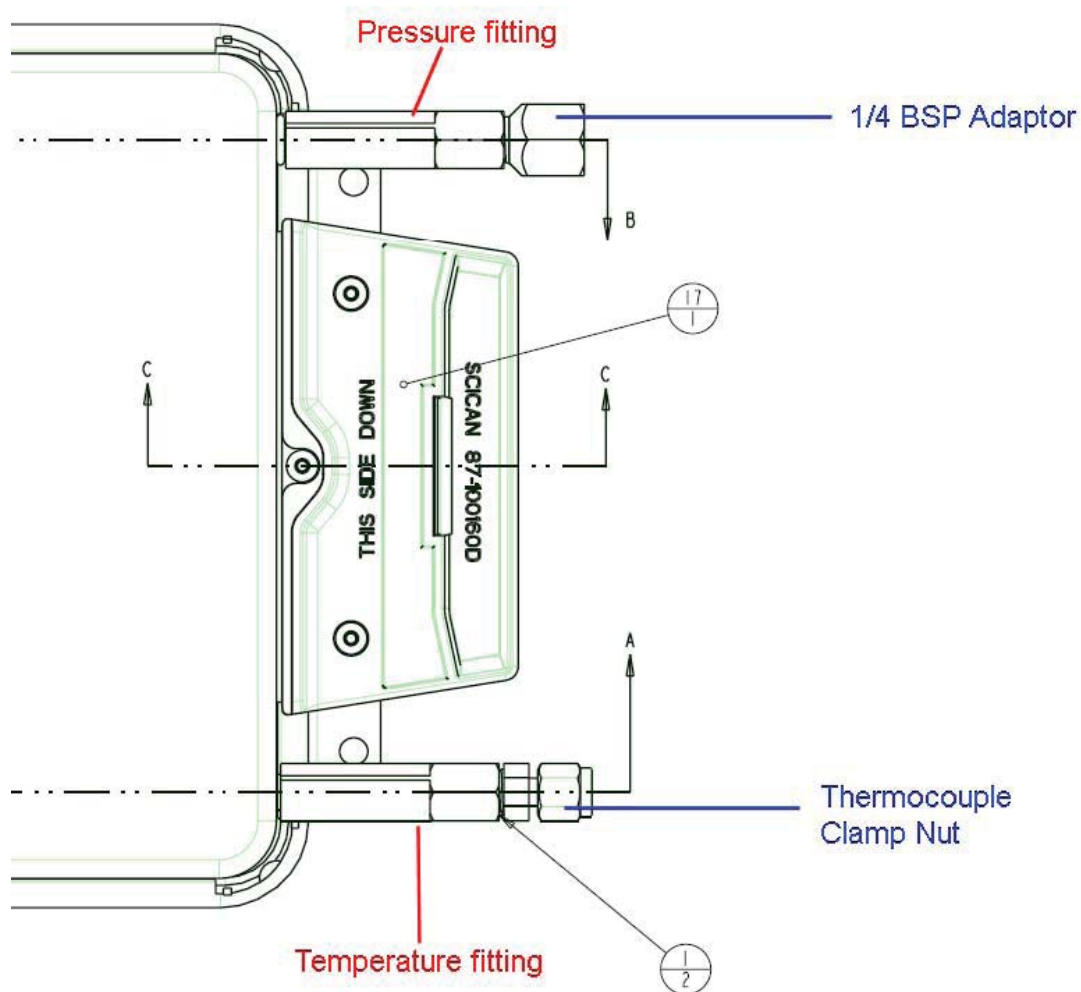

Figure 7. S-class 'generic' fitting configuration (2000S cassette shown)
- Cassette (2000S or 5000S as appropriate) with 'generic' pressure and temperature fittings attached (see Figure 7 below)